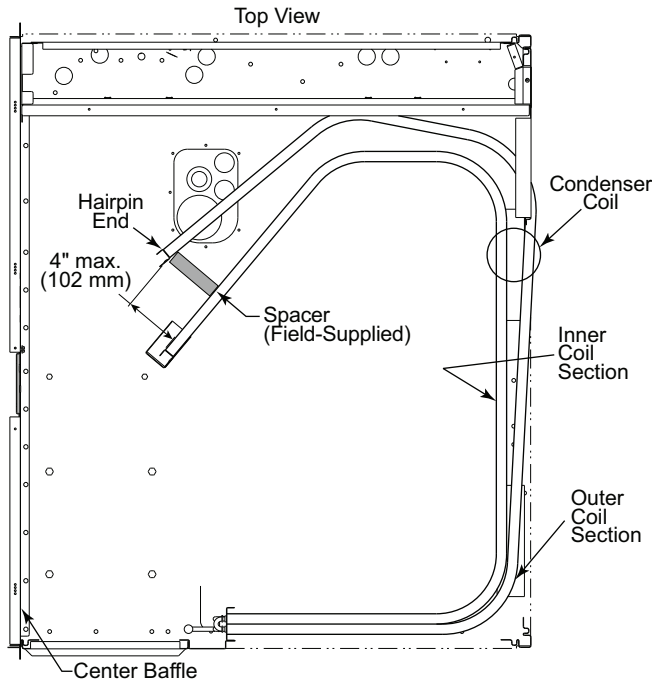

Fig. 18 — Separating Coil Sections
8. Insert a spacer (field-supplied) between the tube sheets to hold the coils apart. See Fig. 18.